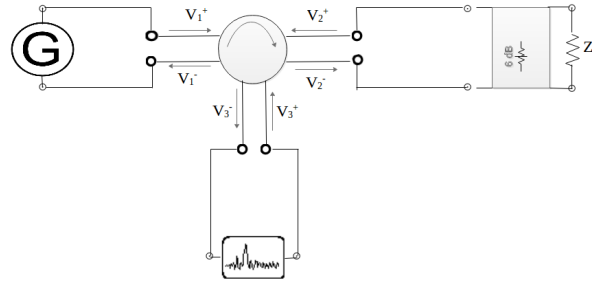

Figure 8: Measure transmission loss @ port3 , Matched Load+ 6dB @Port2
- The set up would like figure 8.